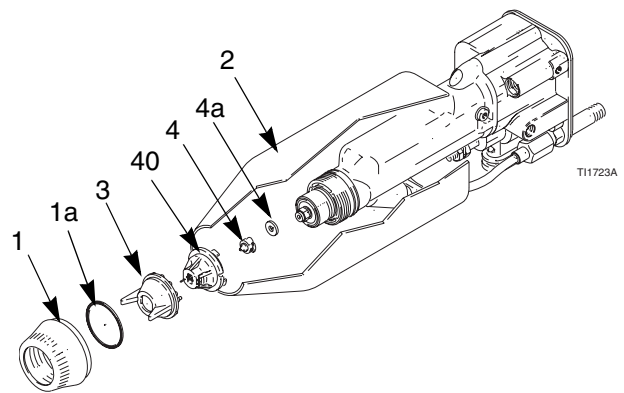

Fig. 14. Remove Spray Tip Before Flushing
2. Be sure the turbine air (TA) is turned off.
3. Remove the retaining ring (1), tip guard (3), air cap (40), spray tip (4), and gun shroud (2). See FIG. 14.. Clean these parts and set them aside.
9. Install the spray tip (4) and air cap (40), tip guard (3), shroud (2), and retaining ring (1) onto the gun. Tighten the retaining ring firmly.